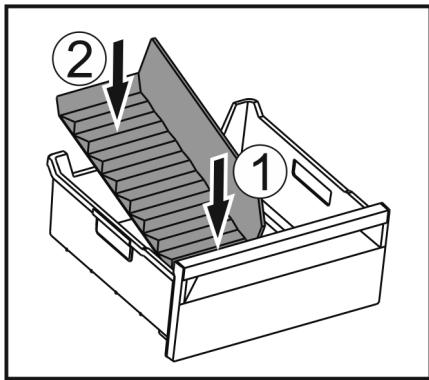

Fig. 176
- ▶ Insert the front part of the ice compartment divider. Fig. 176 (1)
- ▶ Lower the rear part of the ice compartment divider to the drawer bottom. Fig. 176 (2)